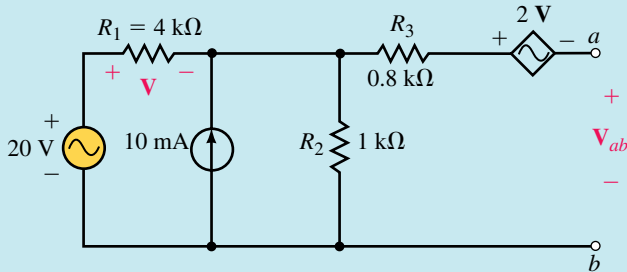
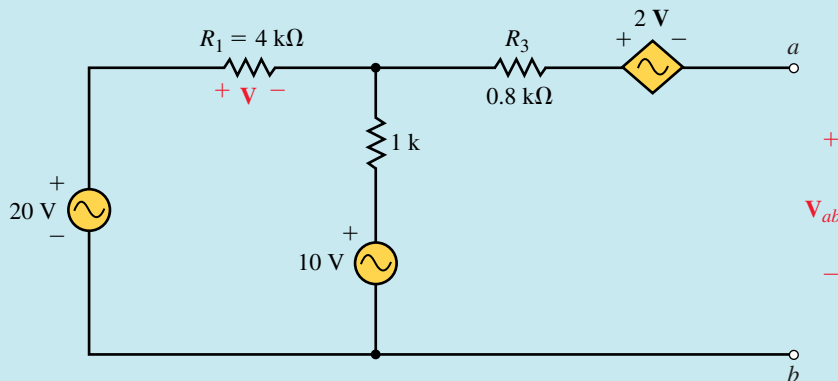

FIGURE 20-47
FIGURE 20-48
Step 1: Removing the load resistor, we have the circuit shown in Figure 20-47.
Step 2: In order to find the open-circuit voltage, V_{ab} of Figure 20-47, we may isolate the effects due to each independent source and then apply superposition to determine the combined result. However, by converting the current source into an equivalent voltage source, we can determine the open-circuit voltage in one step. Figure 20-48 shows the circuit that results when the current source is converted into an equivalent voltage source.